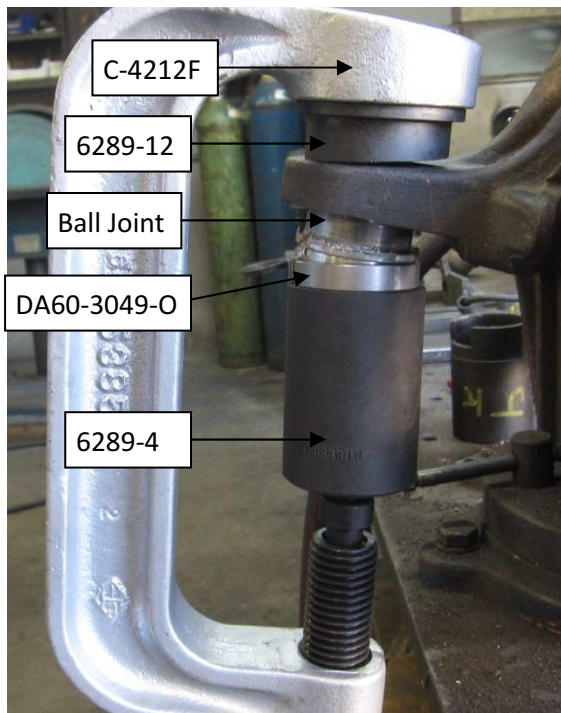

Figure 4, Installation of Lower Ball Joint
8. After the knuckle and end forging have been cleaned, the Dynatrac ball joints may be pressed into the end forging. Start by installing the lower ball joint first (C-4212F, 6289-4, 6289-12, DA60-3049-O). Use the Dynatrac bushing to space the press surface above the seal preventing damage (Fig 4). **Clock the grease fitting so it is facing towards the front of the vehicle.**